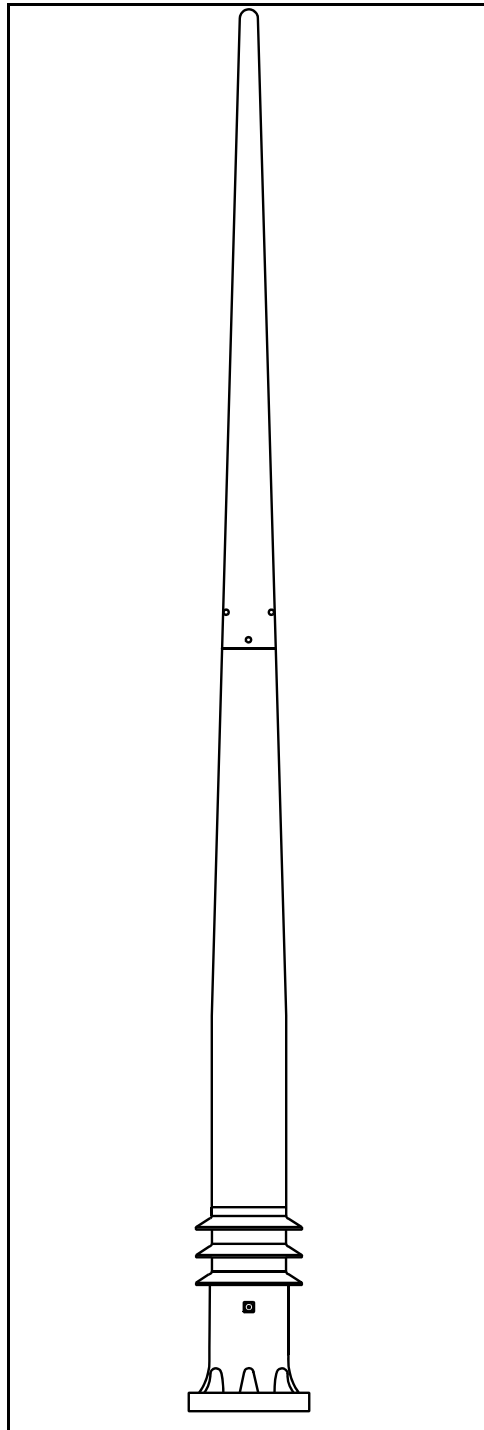

Figure 1-1 Antenna VBBA 2-30
- 1-4 EQUIPMENT DESCRIPTION. The VBBA 2-30 Broadband Antenna (see figure 1-1) is a whip antenna for general use with HF communications equipment. The antenna provides vertically polarized, omnidirectional azimuth radiation from 2 to 30 MHz when the antenna is operated with a HF transceiver. It is designed for use under the severe environmental conditions encountered aboard Naval vessels. It is used for either receiving or transmitting high frequency signals. The antenna is a two section antenna and is base mounted. The mounting flange and insulator is a single integral part made from fibreglass.